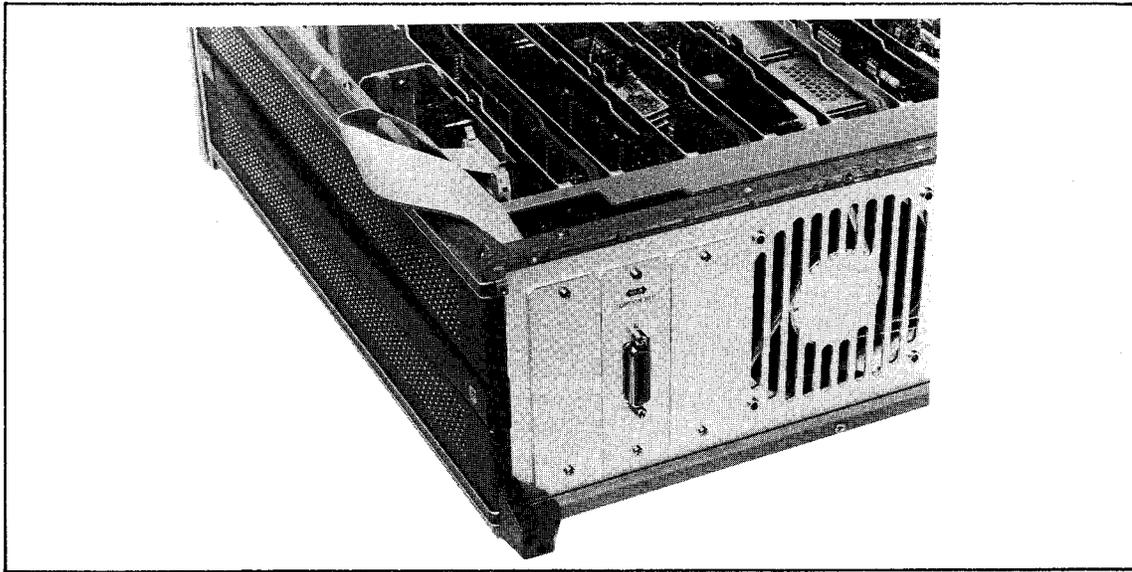

Figure 2-6. Option 101 Set Up
- Remove the blank panel installed over the second slot from the left on the rear panel, and install the HP-IB Panel as shown in Figure 2-6.
- Connect the HP-IB Assembly's female connector to the male connector on the HP-IB Interface board (A20J1), as shown in Figure 2-6.